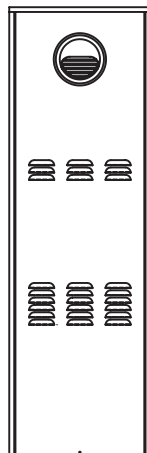

Figure 5: Completed installation.
- After confirming the heater is operating correctly, replace the front cover of the recess box. The vent termination will fit through the hole in the front cover as shown in Figure 5. Secure using the supplied thumb screw from the installation kit.